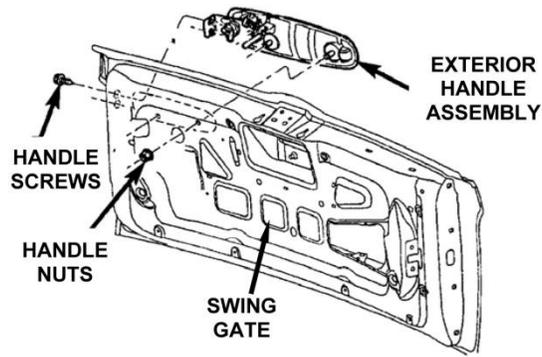

Figure 2
9. Unclip the latch actuator rod from the swing gate handle (Figure 2).
10. Remove the two (2) nuts and two (2) screws that attach the exterior handle to the swing gate and then remove the handle assembly (Figure 2).
15. Install the handle assembly into the swing gate (Figure 2). Tighten the two (2) screws and two (2) nuts to 55 in-lbs (6 N·m).